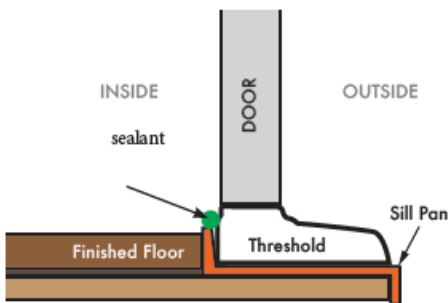

FIG 5
- To Prevent air and water infiltration apply sealant between the sill pan and the back of the jamb/sill FIG 5